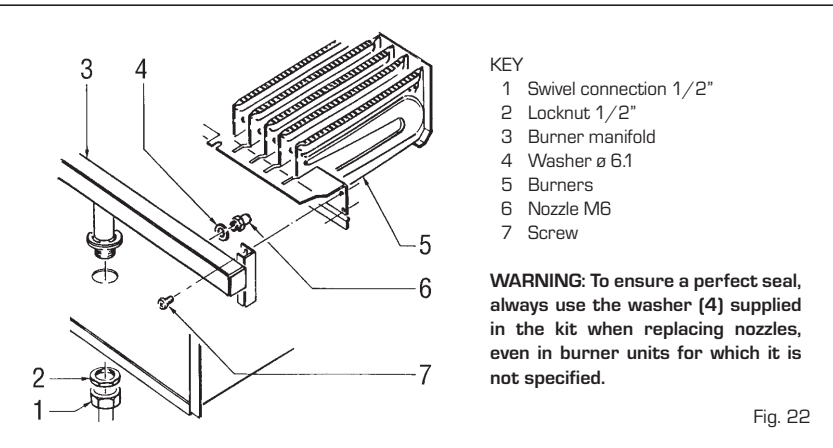

Fig. 22
To convert from natural gas to LPG or vice versa, perform the following operations (fig. 22):
Set maximum and minimum pressure on gas valves as follows (fig. 22/a):
4.10 CLEANING THE C.H. WATER FILTER "AQUA GUARD" (fig. 22)